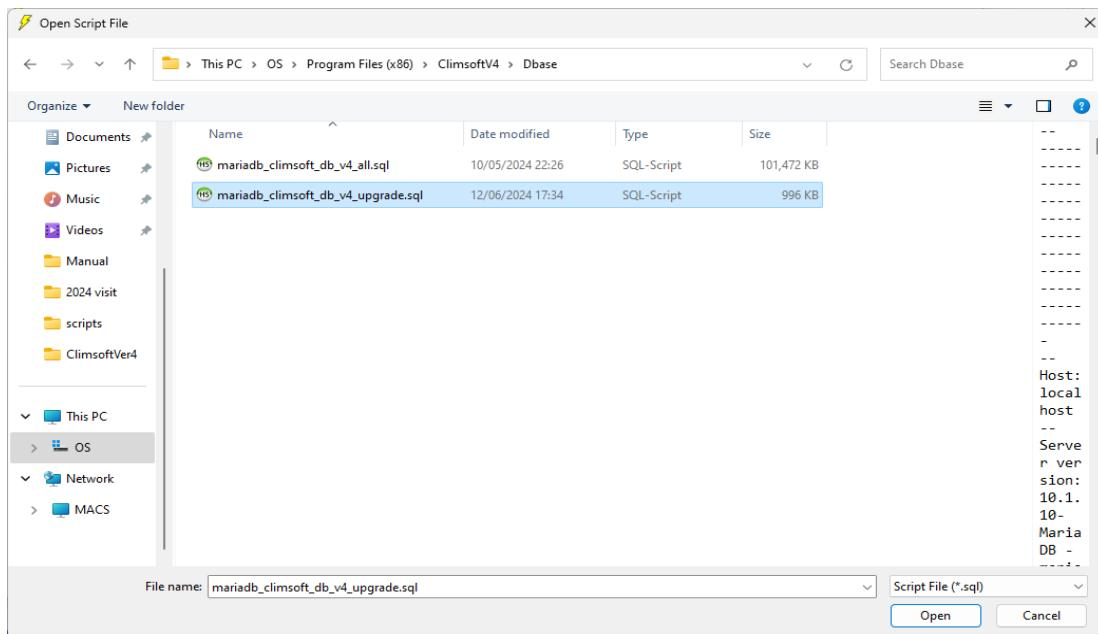

Figure 107: Climsoft version upgrade script file opening
- (iii) Select the script file and click **Open** as shown in Figure 107;